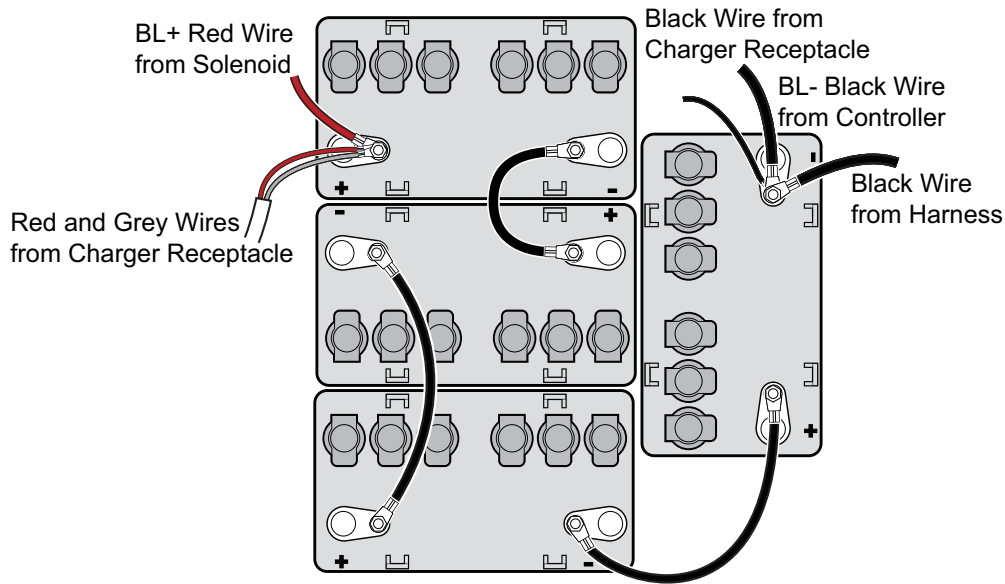

Fig. 29 Battery Connections
- Carefully replace the wires on the battery terminals as shown (Ref. Fig. 29). Make sure to reconnect the main negative (-) battery cable, BL-, from the controller last.